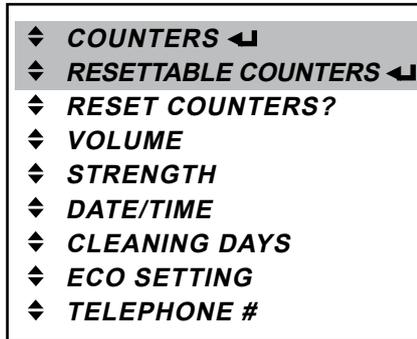

Fig. 55
- In the operator mode, press the enter button ◀ to access the «COUNTERS» menu or the «RESETTABLE COUNTERS» menu (fig. 55).